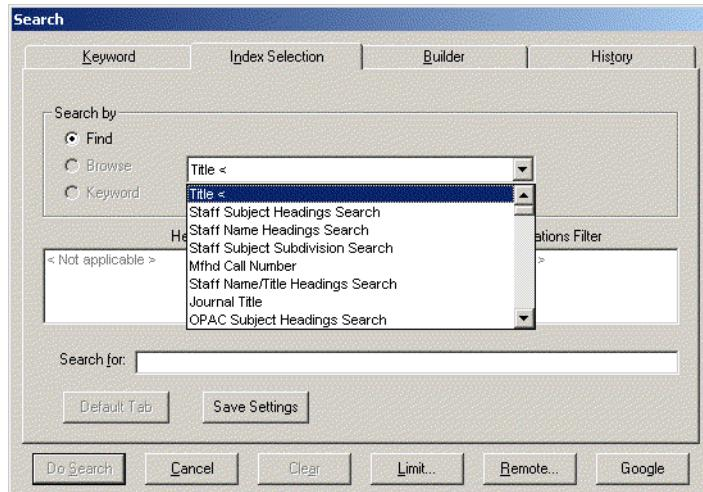

Figure 2-34. Type of search
2. Select the type of search wanted from the drop-down menu (see Figure 2-34).